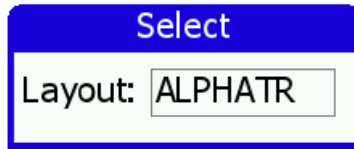

Figure 21: Window for setting Emsis layout
**Layout** In most cases the correct layout is set in the factory and you do not need to change it unless we advise you to do so. Figure 21 shows a window for selecting a layout.